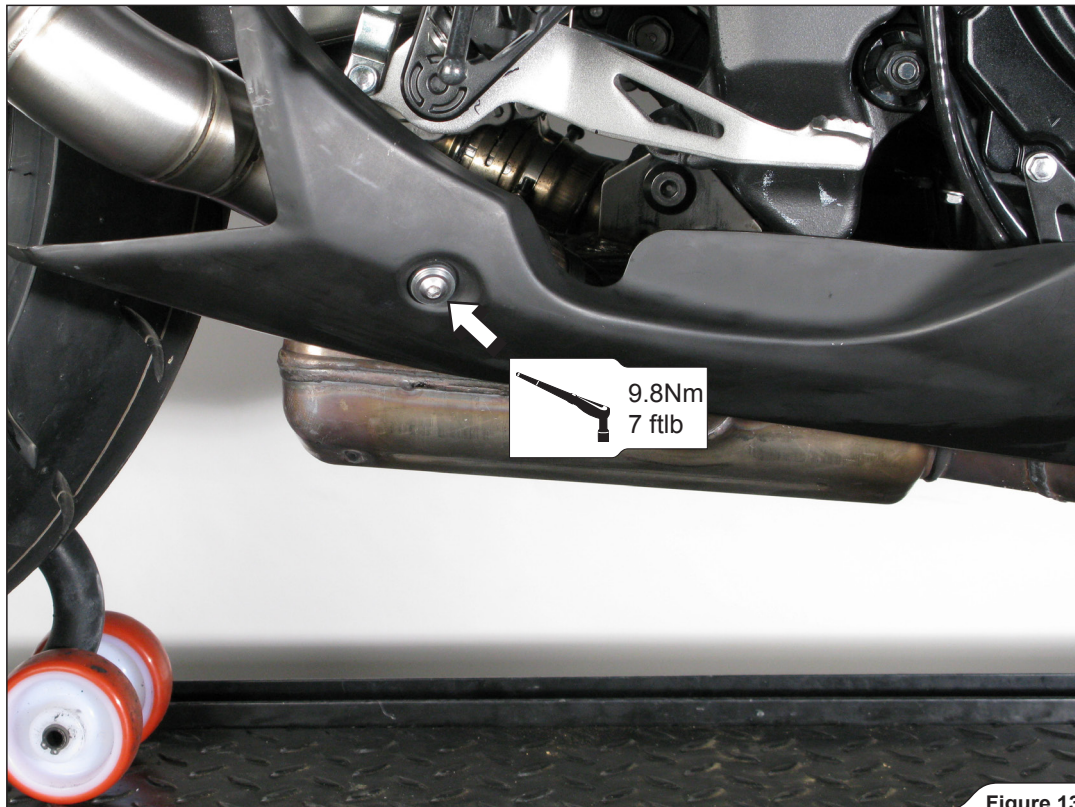

Figure 13
6. Install the stock heatshield back on the right side of the motorcycle, using stock bolt and washer (**Figure 13**).